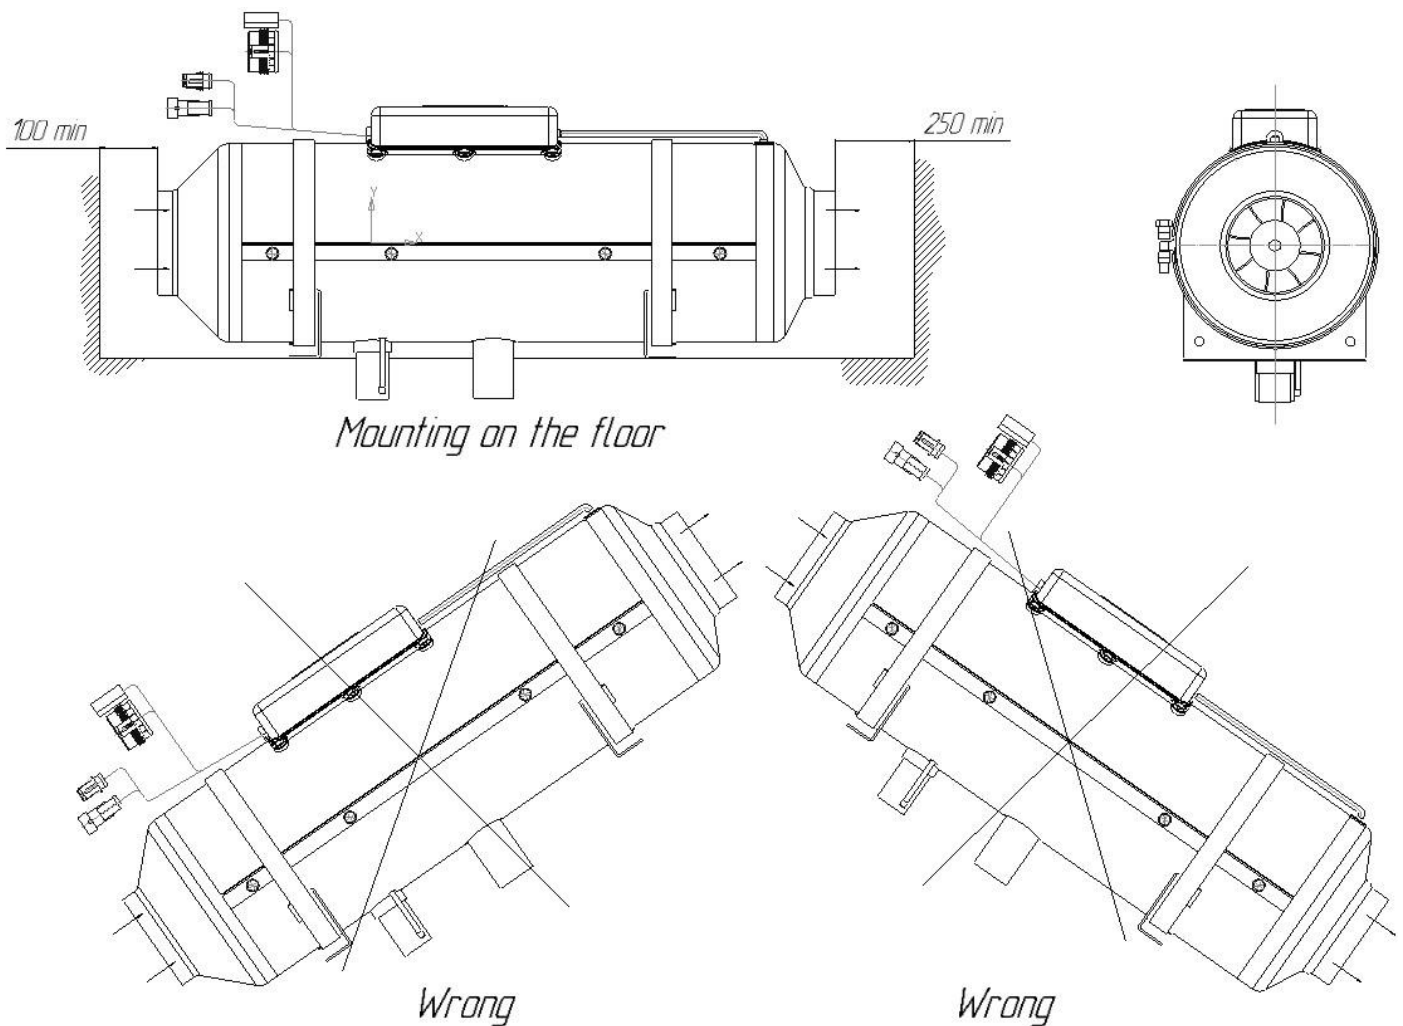

Figure 8.1 – Variants of installation of a heater.
Install the heater according to figure 8.1. Place of installation for the heater should be flat. Position the heater's inlet vent in such a way to prevent absorption of vehicle/heater exhaust gas in normal operating conditions. The distance between the walls/partitions and the edge of the inlet vent shall be at least 100 mm (see figure 8.1). The distance between the walls/partitions and the edge of the outlet vent shall be at least 250 mm. When assembling or operating the heater, ensure that no foreign objects enter the inlet/outlet vents. Prior to assembly, ensure availability dismantlement requirements, as this will permit easier maintenance in future.
**ATTENTION!!! To ensure reliable performance, follow the above recommendations carefully. Install the heater horizontally as shown on the figure 8.1.**